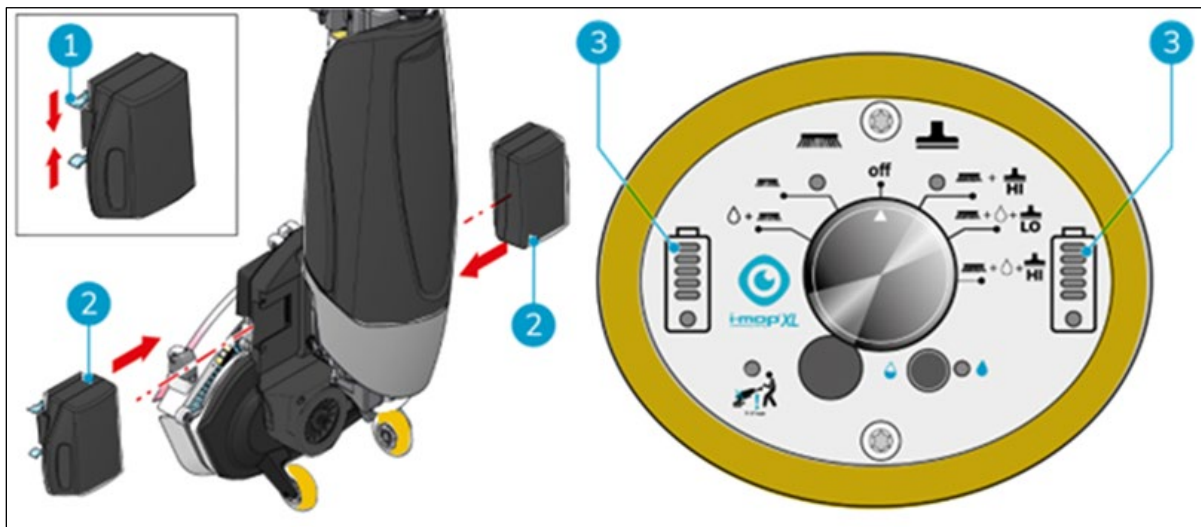

Figure 16
4. Push the blue coded battery (Figure 16, pos. 2) in the blue battery slot. A click indicates the battery is locked in place (Figure 16, pos. 1).
6. During operation, the battery indicators (Figure 16, pos. 3) on the control panel show the amount of power left.